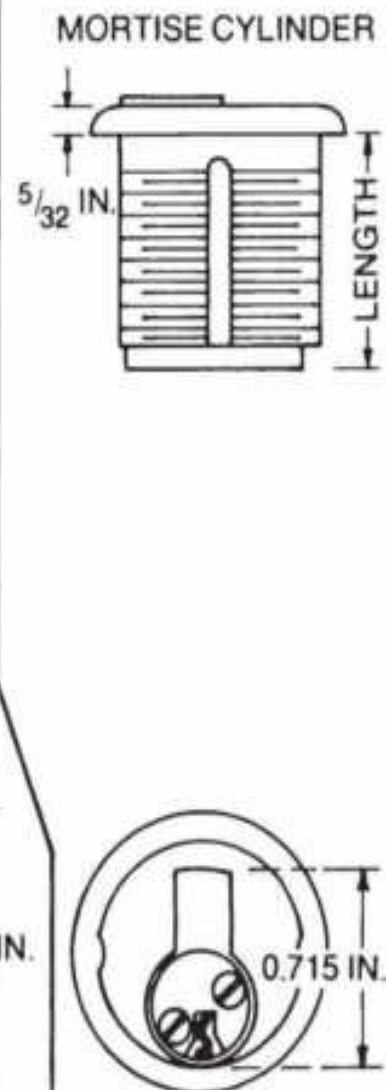

**Figure 7.13** Medeco pin tumbler cylinders. The tailpiece can be serrated (A ), solid (B ), or replaced by a cam (C ). (*Medeco Security Locks* )
**Tailpieces and cams.** Most pin tumbler cylinders have either a tailpiece or a cam attached to the rear of the plug (Fig. 7.13 A , B ). The tailpiece is loose to allow some flexibility in the location of the auxiliary lock on the other side of the door. Alignment should be as accurate as possible; under no circumstances should the tail-piece be more than  $\frac{1}{4}$  inch off the axis of the plug.
On the other hand, pin tumbler cylinders for mortise locks do not have such tolerance. The best is driven by a cam on the back of the cylinder (Fig. 7.13 C ). If the lock is used on office equipment, the cam is probably a milled relief on the back of the plug; it might also be a yokelike affair, secured to and turning with the plug. It is important that these locks are aligned with the bolt mechanism.